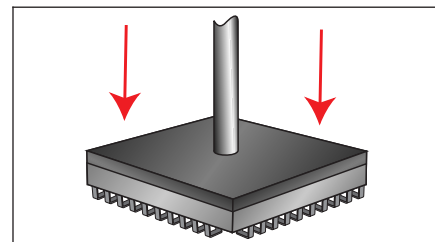

Figure 3 Contact All Leads
7. Bring the tip straight down on top of the part, making full, even contact on all of the leads. (See Figure 3.)